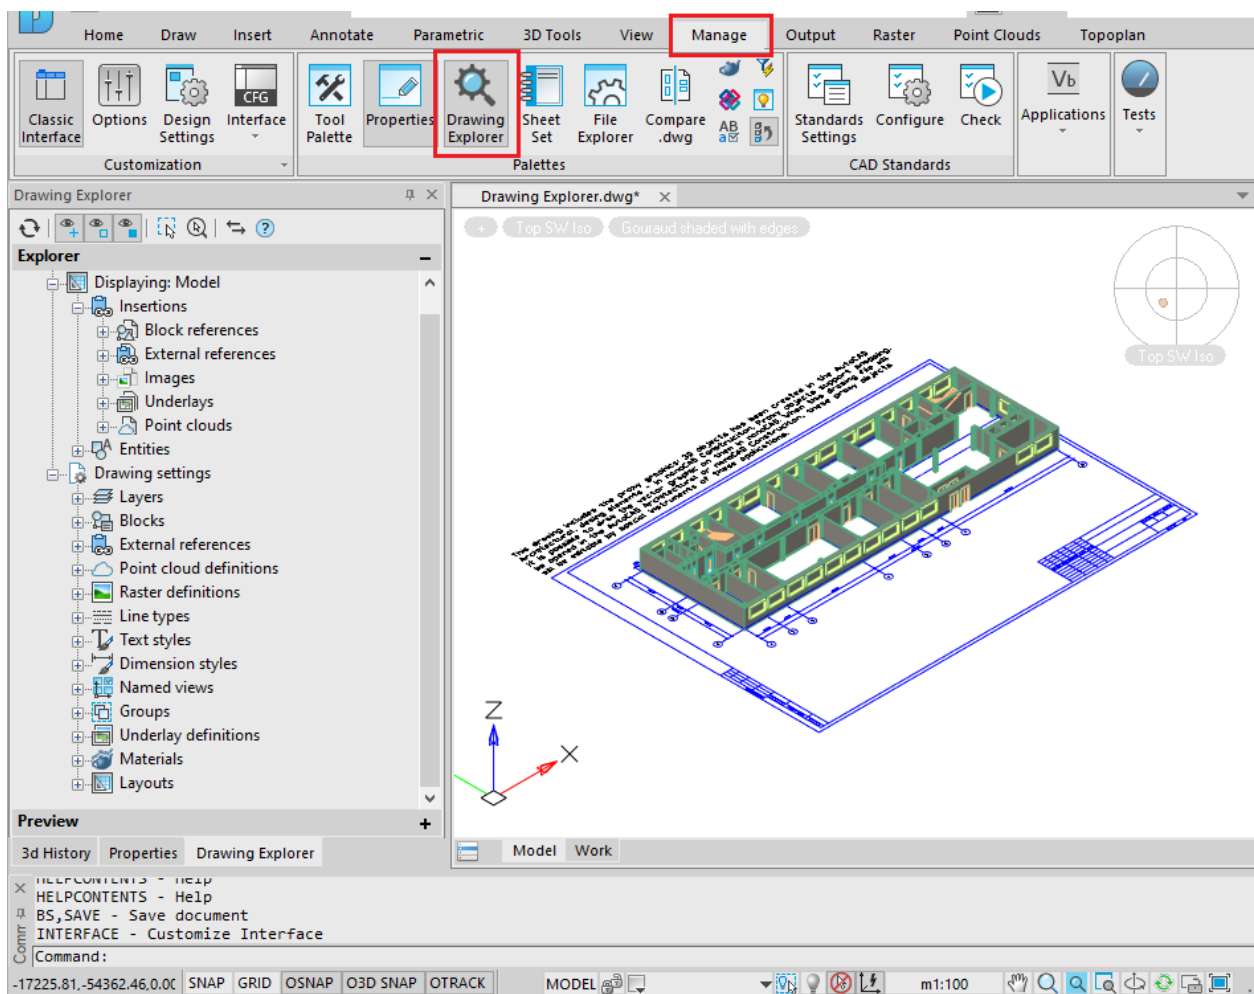

Fig. 55. Drawing Explorer
7.1. Open the **Manage** tab and click the **Drawing Explorer** (fig. 55):